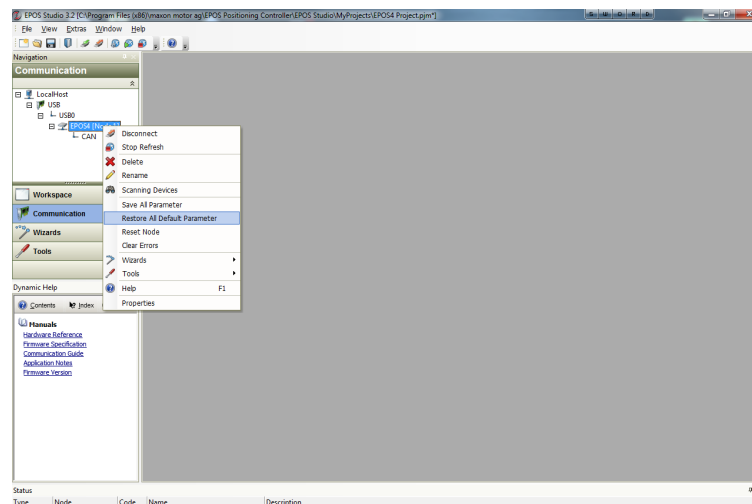

Figure 8-83 Adjustment of SSI commutation offset value | Restore all default parameters
- 6) If you are not quite sure what parameters are set, execute the command **«Restore all default parameters»** (→ Figure 8-83) before continuing.